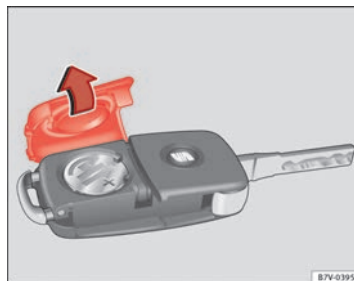

Fig. 44 Vehicle key: battery compartment cover
The battery is located to the rear of the vehicle key, under a cover ⇒ Fig. 44.
- Remove the cover from the back of the vehicle key ⇒ Fig. 44 in the direction of the arrow ⇒ ①.
- Fit the battery compartment cover, pressing in the direction of the arrow as shown ⇒ Fig. 44 until it clicks into place.